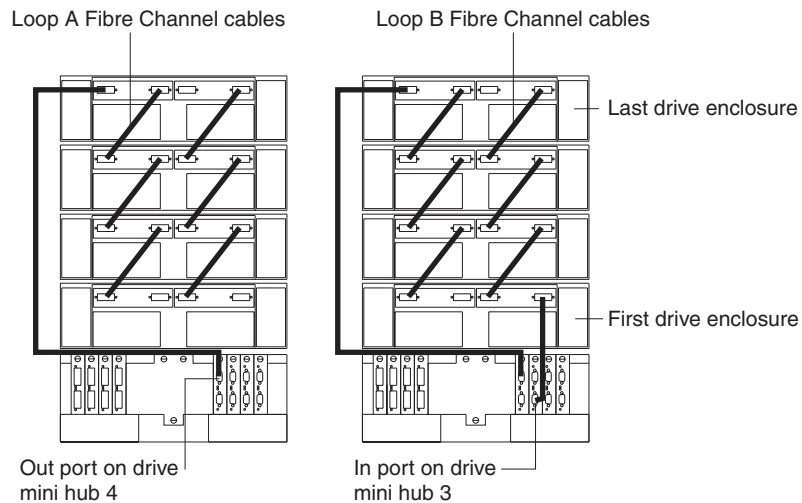

Figure 33. Connecting redundant drive loops to the FAST700 Storage Server
2. Connect drive loop B to the FAST700 Storage Server, as shown in Figure 33. Starting with the first drive enclosure in the loop, connect the Out port on the right ESM board to the In (lower) port on drive mini hub 3. Leave the In port on the right ESM board on the last drive enclosure and the Out (upper) port on drive mini hub 3 unoccupied.